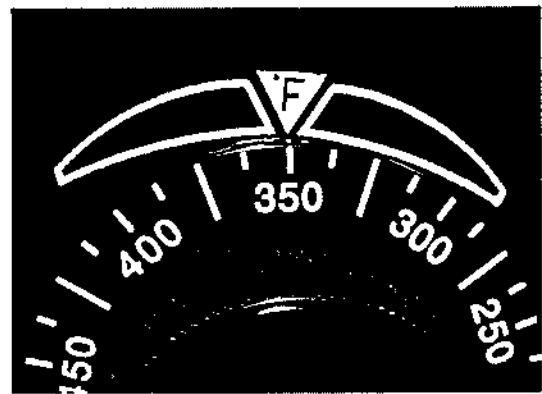

FIG. 2
6. To set a target temperature in degrees Fahrenheit, turn the knob in a clockwise direction until the desired number on the knob is directly under the white triangle with the °F in its center. (FIG 2)